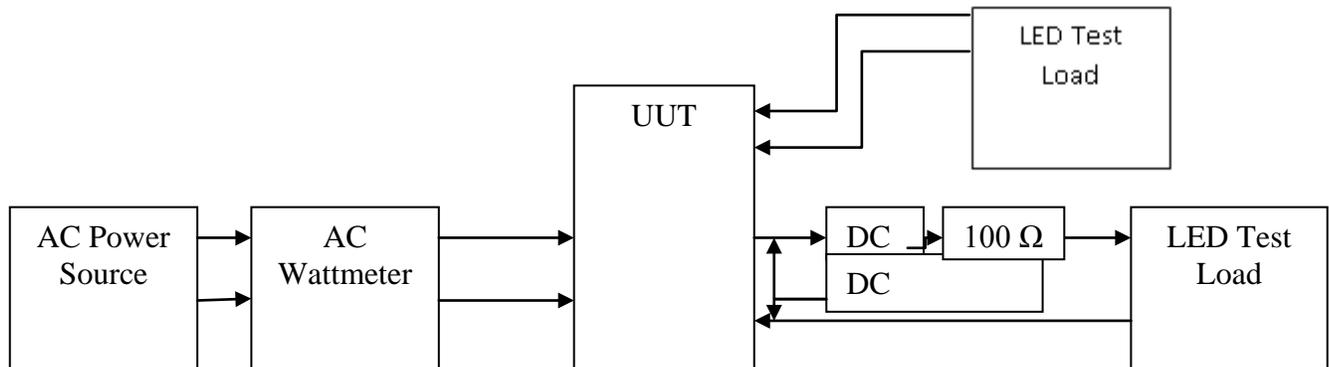

Figure 8. Test Set Up
1. Connect the LED Load or the electronic load with the 100 ohm resistor in series to the red(+) and black(-) leads through the ammeter shown in Figure 8. **Caution: Observe the correct polarity or the load may be damaged.**
2. Connect the AC power to the input of the AC wattmeter shown in Figure 8. Connect the white leads to the output of the AC wattmeter
3. Connect the DC voltmeter as shown in Figure 8.